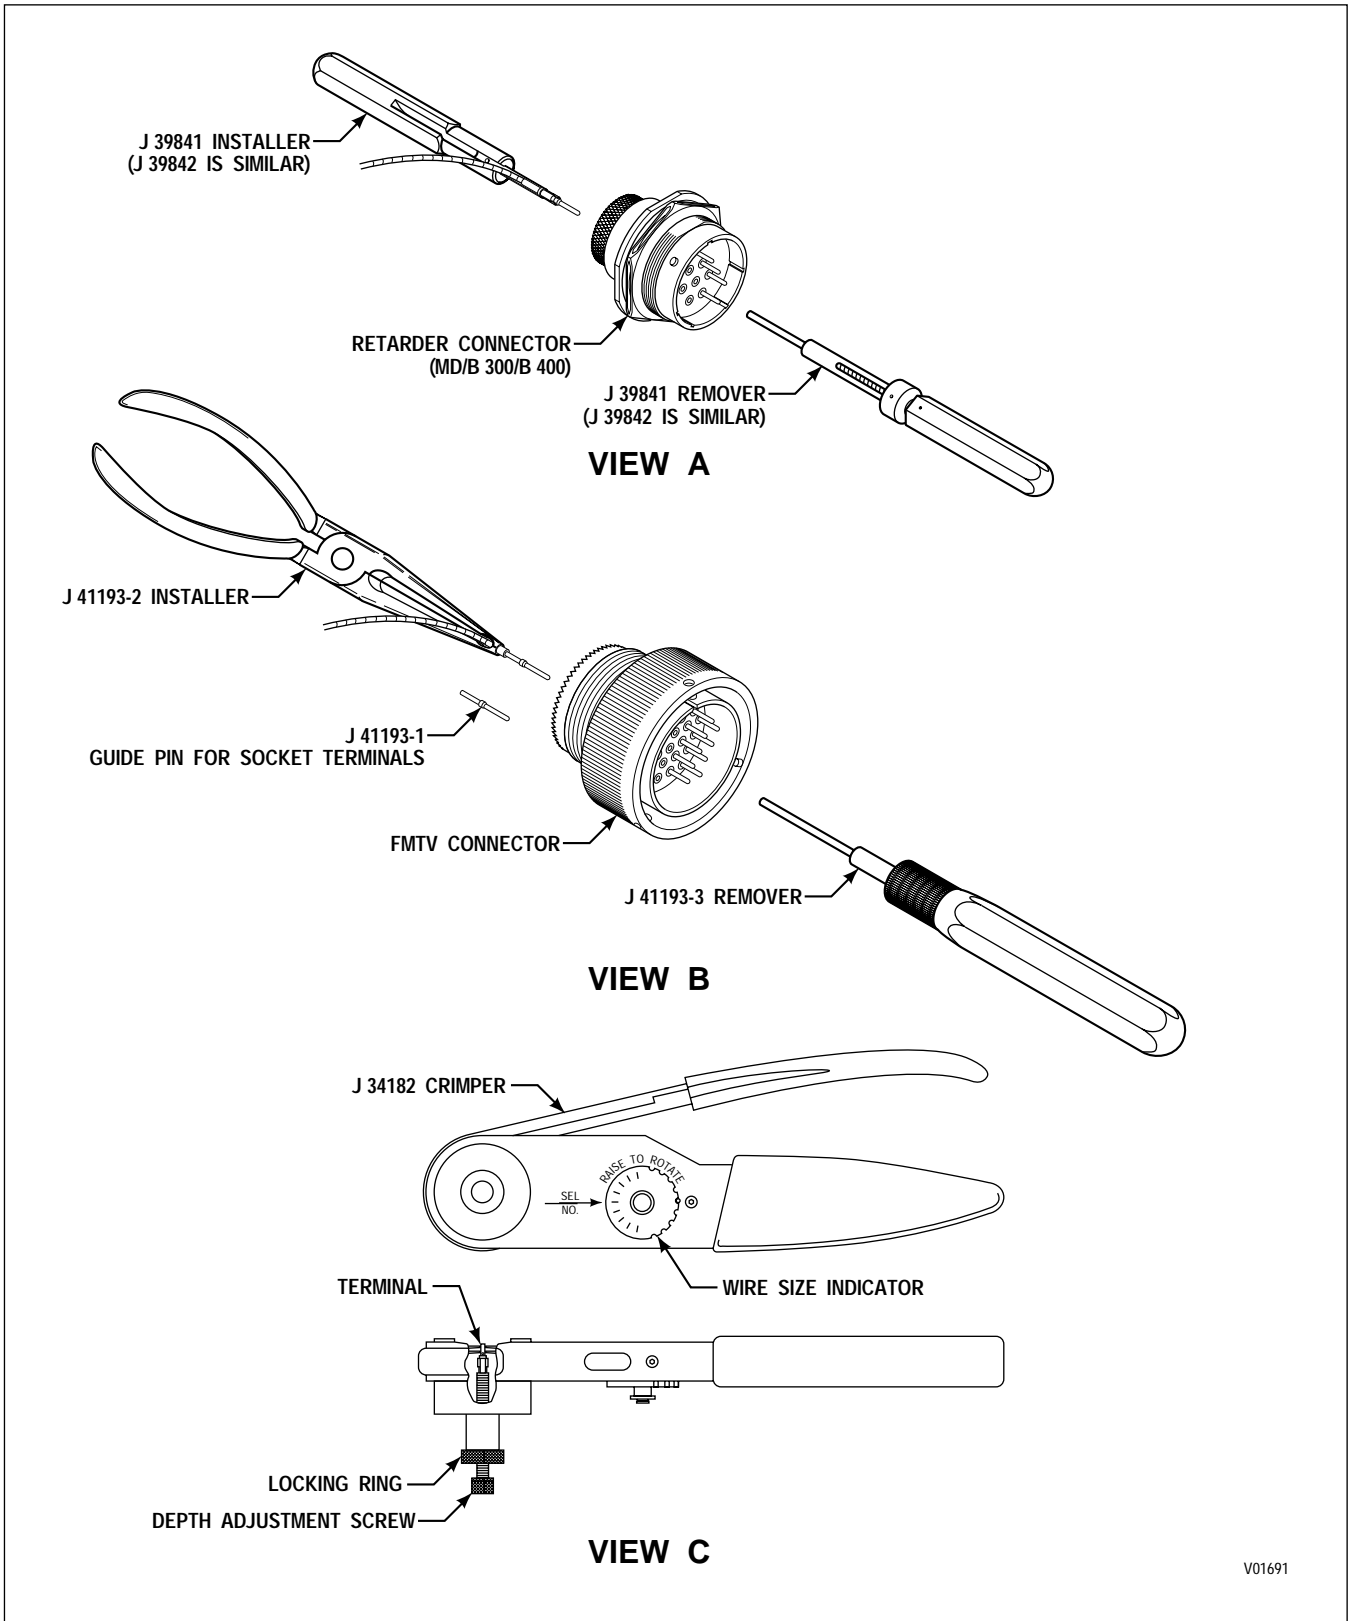

Figure E-10. ITT Cannon Connectors — Crimped (37-Way FMTV Bulkhead; 6-Way Transfer Case; 8-Way MD Retarder)
#### B. Terminal Removal (refer to Figure E-10, Views A and B)
### C. Terminal Crimping (refer to Figure E-10, View C)
2. Place the terminal and wire in the insertion tool (refer to Figure E-10, Views A and B).